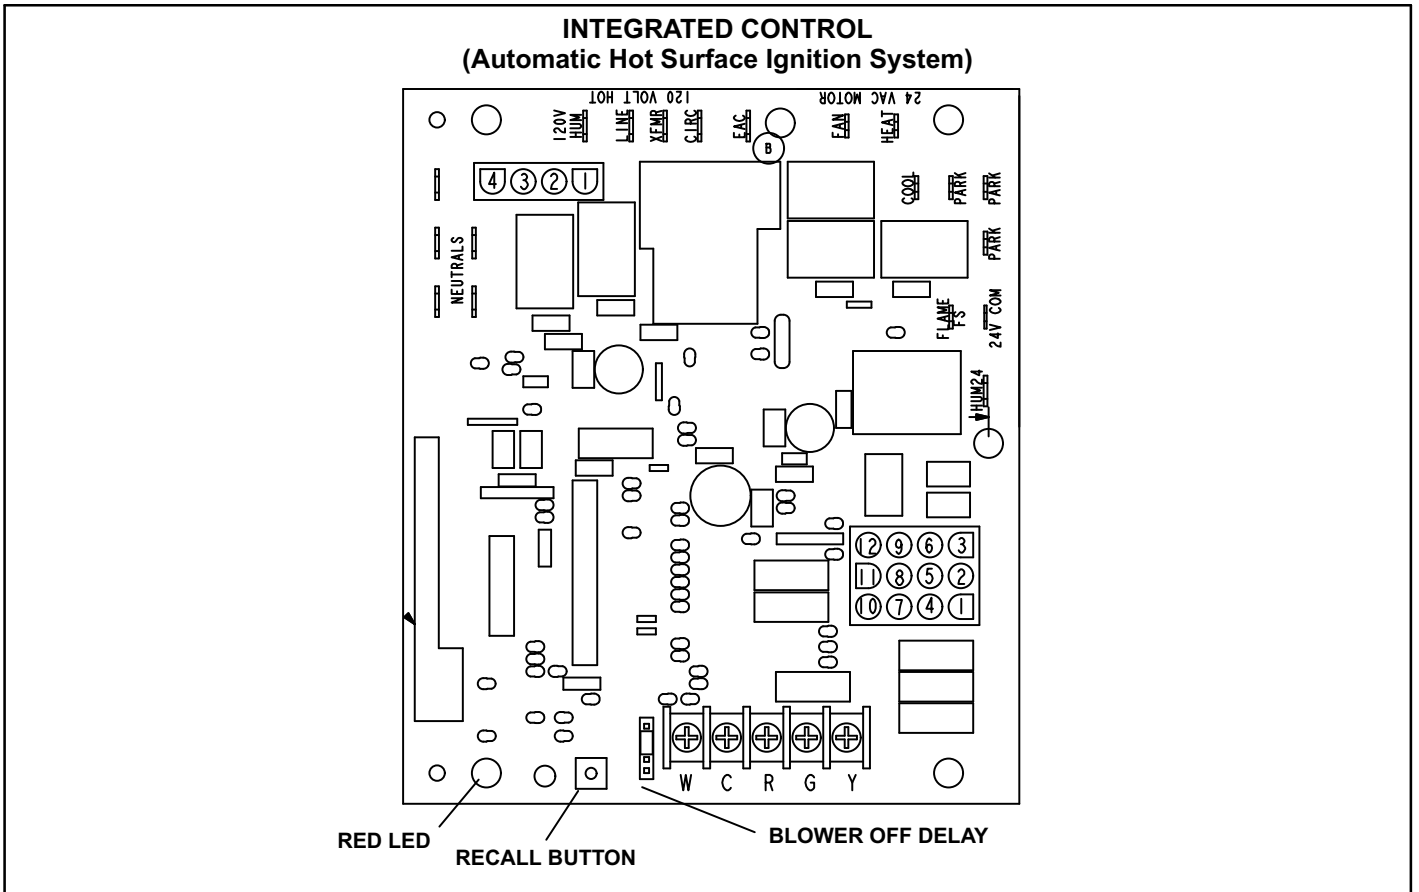

FIGURE 3
The hot surface ignition control system consisting of an integrated control (figure 3 with control terminal designations in tables 1, 2 and 3), flame sensor and ignitor (figure 6). The integrated control and ignitor work in combination to ensure furnace ignition and ignitor durability. The integrated control, controls all major furnace operations. The integrated control also features a RED LED for troubleshooting and two accessory terminals rated at (1) one amp. See table 4 for troubleshooting diagnostic codes. The nitride ignitor is made from a non-porous, high strength proprietary ceramic material that provides long life and trouble free maintenance.